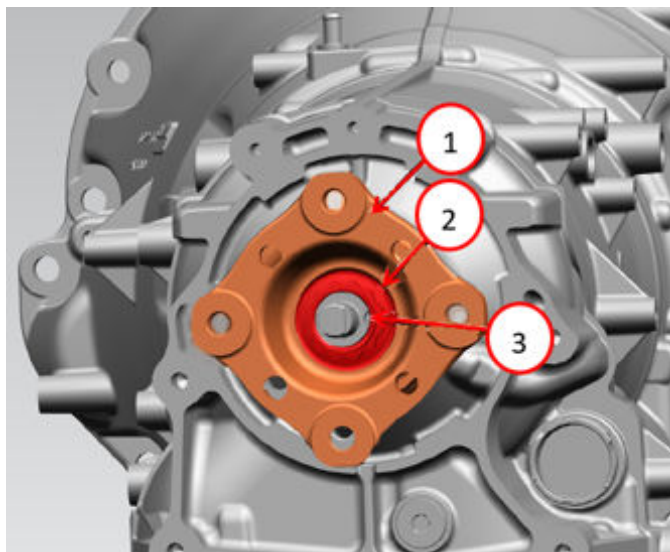

Fig. 55
79. For 2WD vehicles, install the output shaft flange Fig. 55 using a **NEW** output flange nut and washer. Use a 34 mm, 12 point socket end to hold the flange during installation.